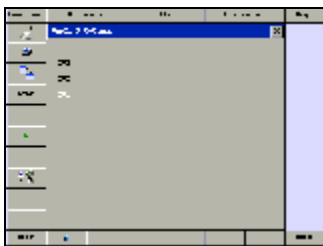
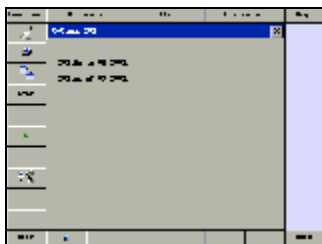

Fig.3.11
Fig.3.12
② You can also select **C-class** to enter interface as shown in Fig.3.11.
7. Select **203** as shown in Fig. 3.10 or Fig. 3.11 to enter interface as shown in Fig.3.12. For information about how to determine the correct chassis number, please refer to Mercedes-Benz diagnostic procedure.
8. Select **203 (as of 09/2003)** as shown in Fig.3.12.